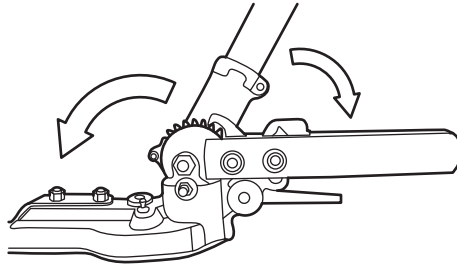

Fig. 28c
3. Move the hedge trimmer shaft (C6) with the other hand until the desired angle is adjusted. (See Fig. 28c)